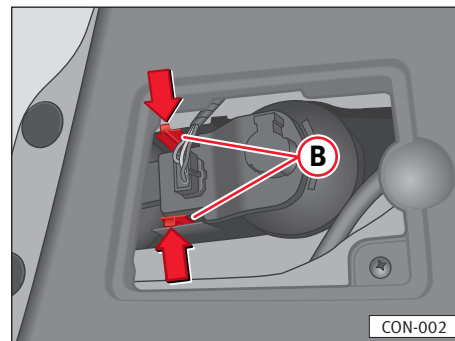

Fig. 158
- Next, press the tongues ⇒ **fig. 158 (B)** of the lamp tray and extract it.